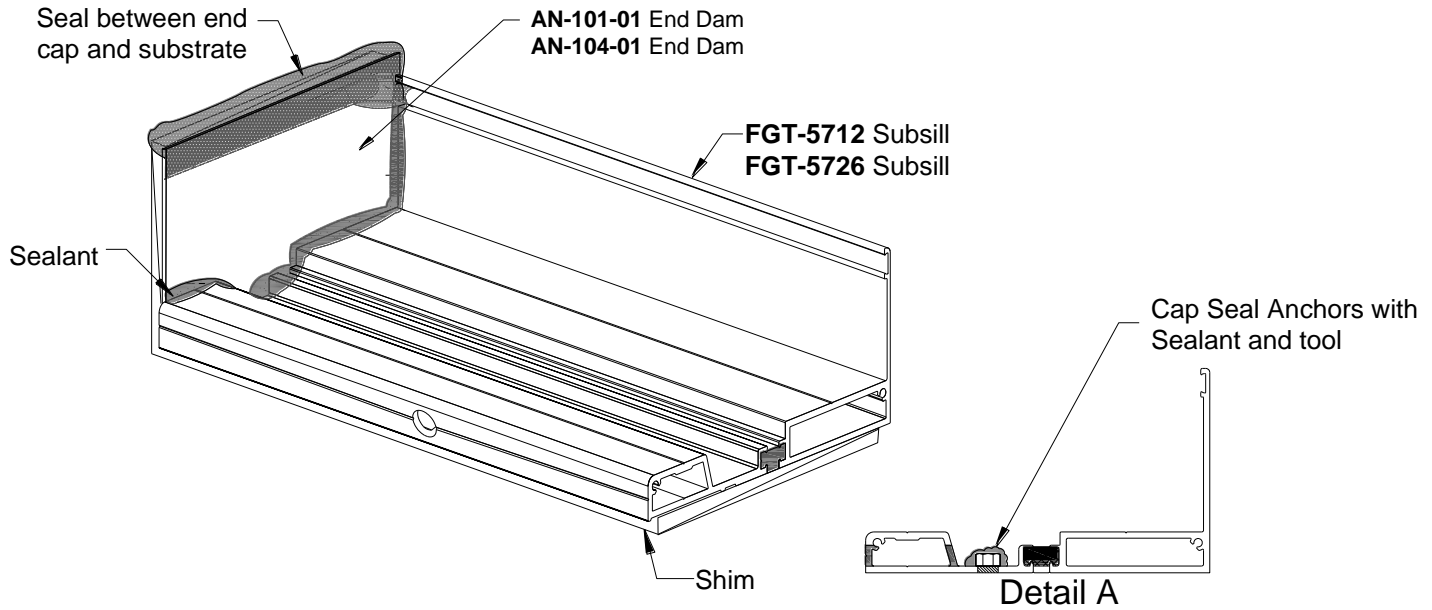

Figure 10: Subsill Installation and Sealing of End Dam
- 8.2 Wedge shims tightly between End Dams and Jamb substrate at each end prior to installing frame panels. These shims prevent the End Dams from being dislodged while frame panels are being installed. Completely seal End Dams as shown in *Figure 10*.